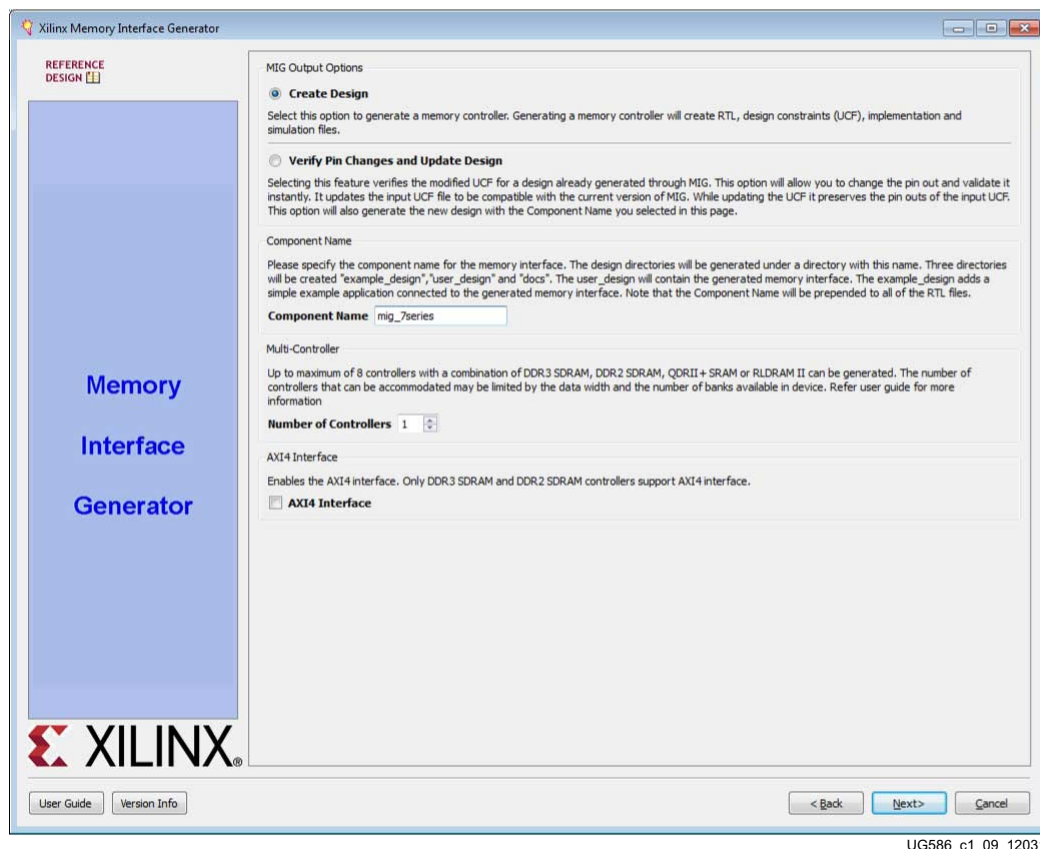

Figure 1-14: MIG Output Options
1. Select the **Create Design** to create a new Memory Controller design. Enter a component name in the Component Name field (Figure 1-14).
3. DDR2 and DDR3 SDRAM designs support the memory-mapped AXI4 interface. The AXI4 interface is implemented in Verilog only. If an AXI4 interface is required, select the language as “Verilog” in the Vivado Design Suite before invoking the MIG tool. If the AXI4 interface is not selected, the user interface (UI) is the primary interface.